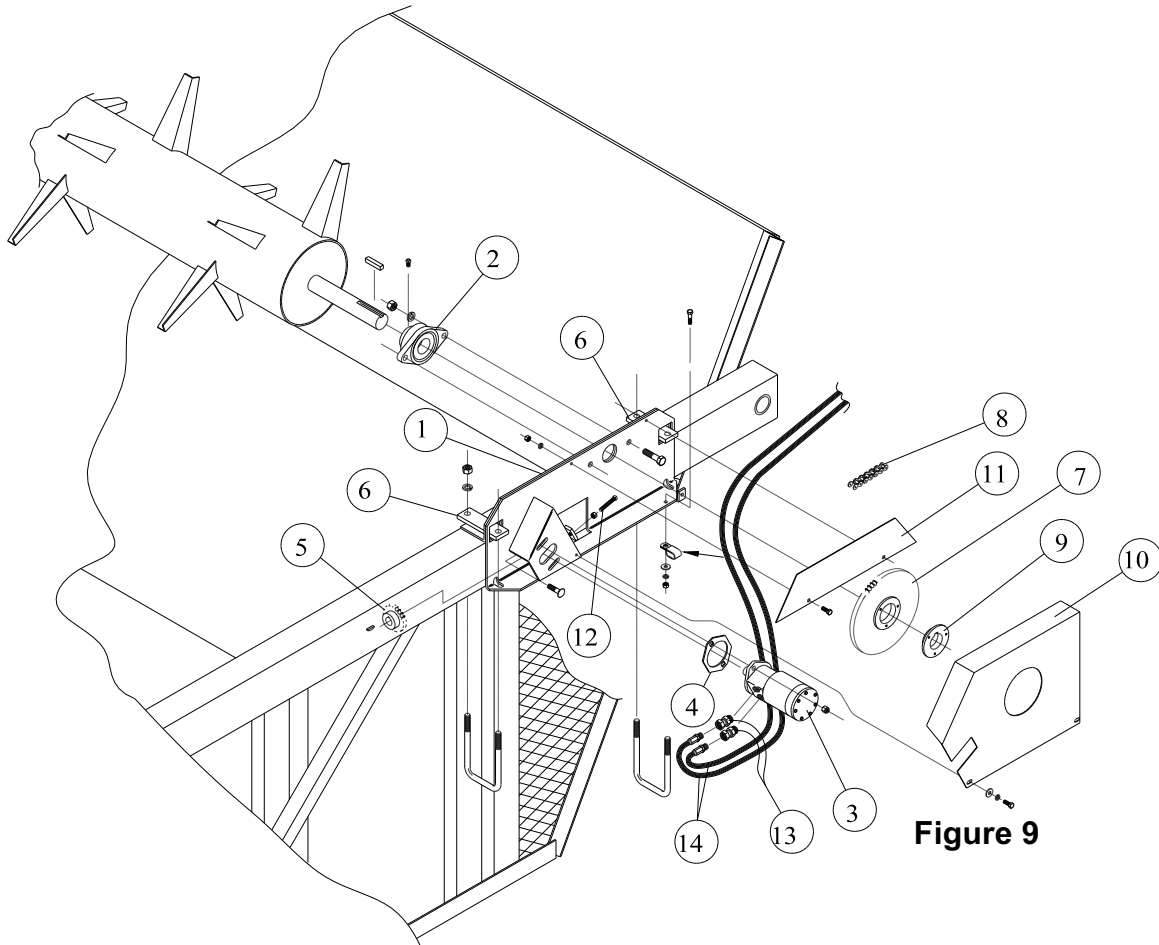

Figure 9
7. **REGULATOR OPTION:** Refer to *Figure 9*. Locate front regulator frame (Item 1). When positioned on top of the front end panel, the motor mount will be on the outside of the basket and toward the dump-in side.
7.7 Connect the two (2) 3/8" x 312" hydraulic hoses (Item 14) to the hydraulic motor using two (2) straight swivels (Item 13). Curve hoses under the hydraulic motor and clamp to bottom far end of the mount as shown in *Figure 9*. From this clamp leave enough slack in the hoses to keep them from being pulled too tight when basket is up. Clamp hoses to inside of A-frame and on top of tongue with other hoses.